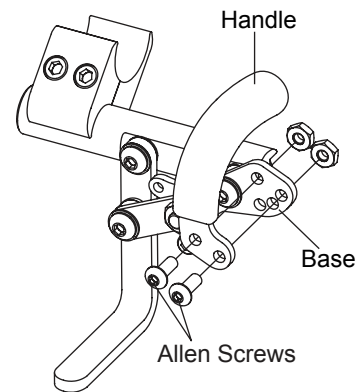

Figure 73
1. As shown in Figure 73, the wheel lock handle attaches to the wheel lock handle base with two Allen Screws. There is only one hole in the wheel lock handle base through which to attach the upper Allen Screw. There are three holes in the wheel lock handle base through which to attach the lower Allen Screw.
1. Remove the two Allen Screws and nuts that secure the wheel lock handle to the wheel lock handle base on both the right and left Uni-Locks. See Figure 73.